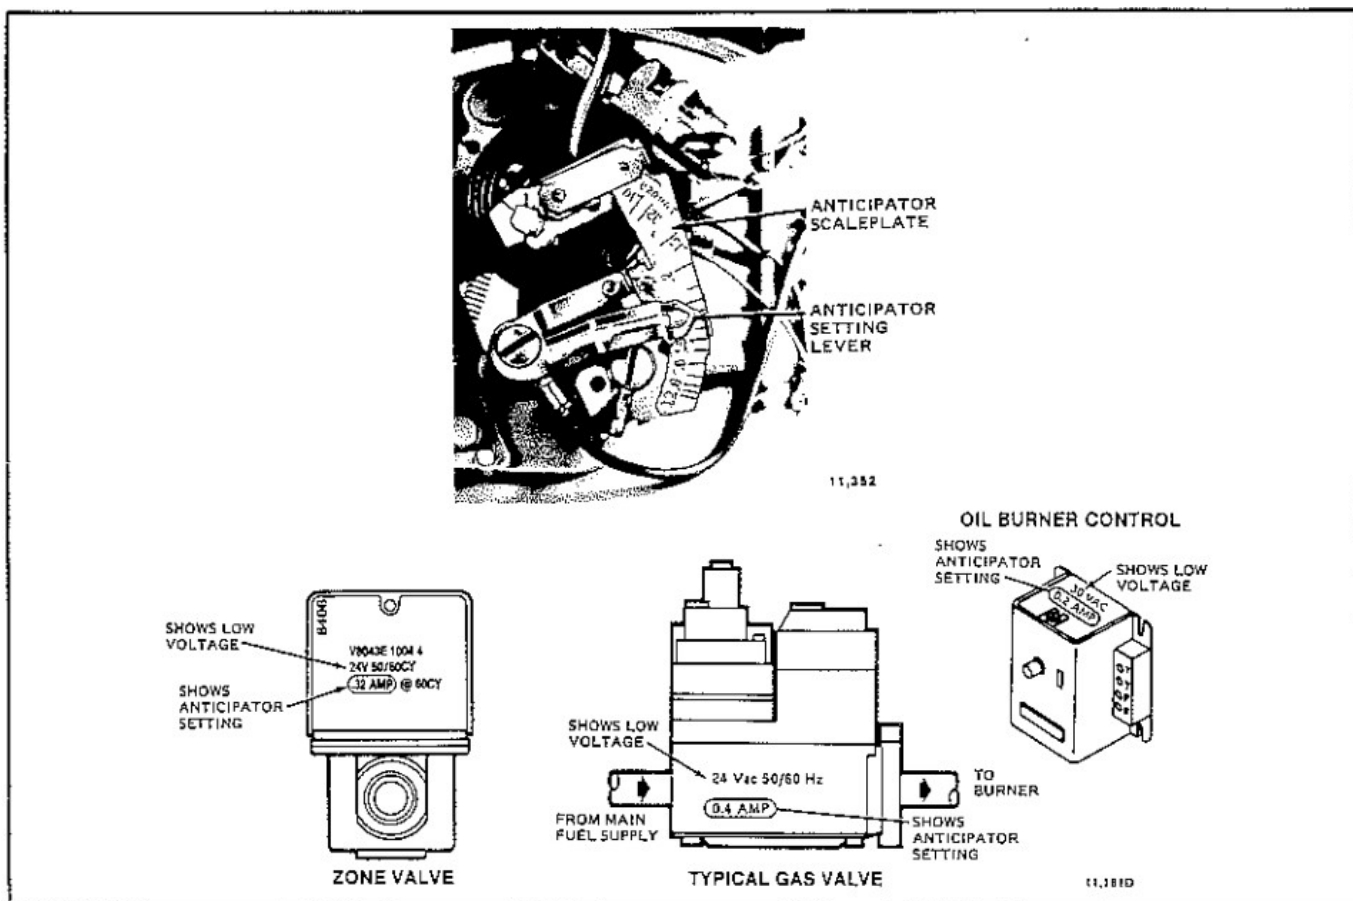

Fig. 6—Setting heat anticipator.
- Move heat anticipator lever to match the current draw (Fig. 6), except in single-stage heat pump systems. In these systems, set the anticipator at 1.4 times the actual current draw to reduce the cycling rate.